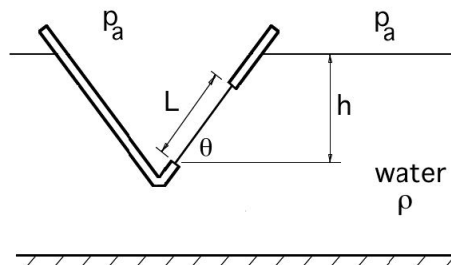

Figure P2.50
2.50 A sightseeing boat has a window in its side of length L and width w , as shown in Figure P2.50. The bottom of the window is a depth h below the surface. The water has a density ρ . Find the magnitude of the resultant force acting on the window due to the water pressure, and its location, in terms of L , ρ , θ , g and h . Indicate all your working clearly, and state all your assumptions, and indicate your coordinate system.